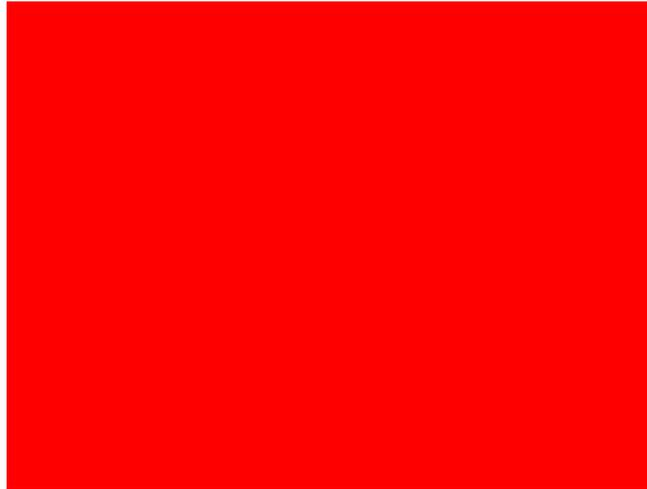

Figure 3. Example of Solid Field Test Pattern (Red)
7. As noted in Table 4, the color for the Solid Field pattern is specified using the Foreground color. An example of a Solid Field pattern is shown in Figure 3.